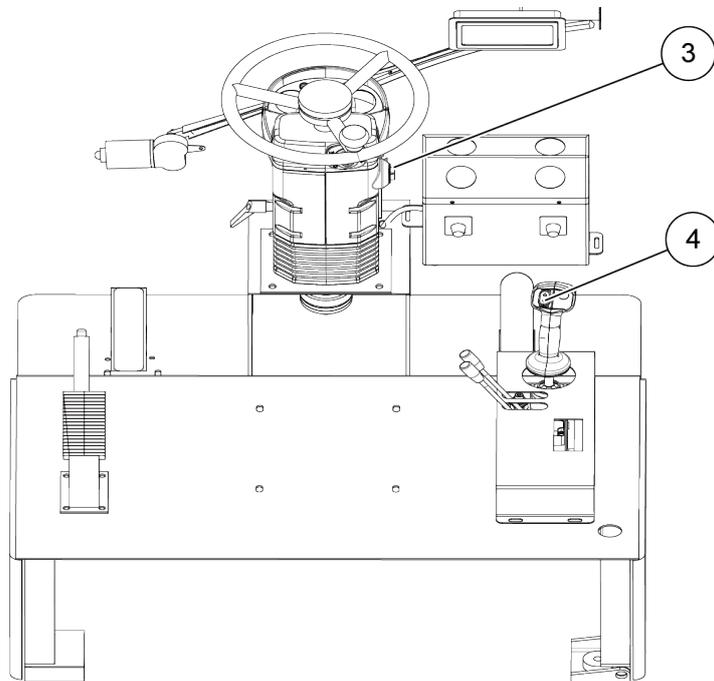

Figure 5-29 O peration platform
(2) Power switch
Step 4: Insert the key into the starting switch(3), the starting switch is in "OFF" state(5), as shown in Figure 5-29 and 5-30;
Step 5: Check and make sure that the travel control switch (4) is in the middle position, as shown in Figure 5-29;
Step 6: Turn the key to "ON" state(6) and hold. At this time, the whole loader circuit is connected;